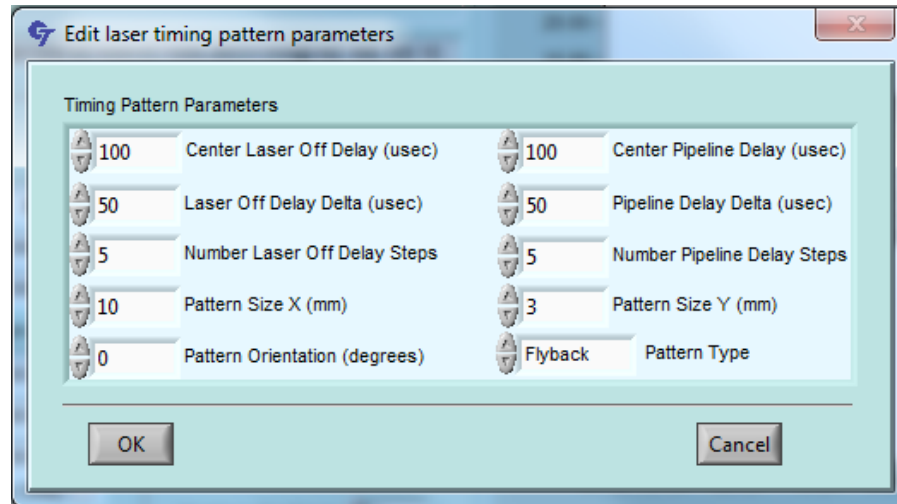

Figure 57: Discovery “Raster” Pattern Setup
2. The array is defined using the following parameters, as shown in Figure 57: